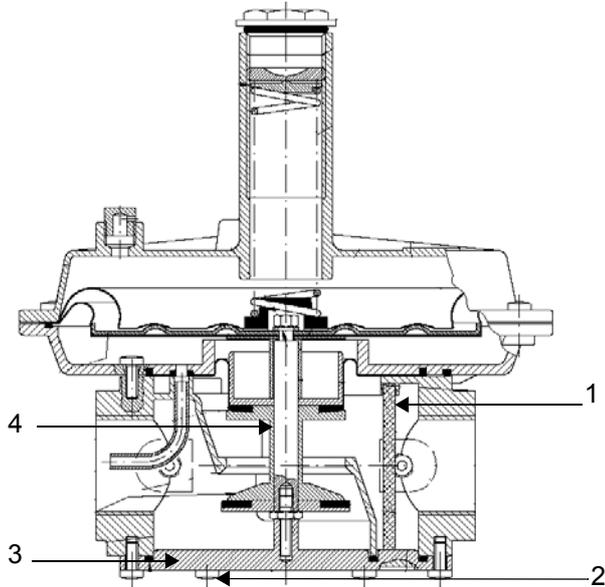

Fig. 24 - threaded body
To check the filtering part (1) on threaded bodies (see picture Fig. 24):
- remove the filtering part (1), clean it with water and soap, blow it with compressed air or replace it if necessary;
- reassemble the filtering part in its initial position checking that it is placed in its own slots (see picture Fig. 24);
- reassemble the bottom cover (3), being sure that the main bolt is centered in the bottom cover slot.